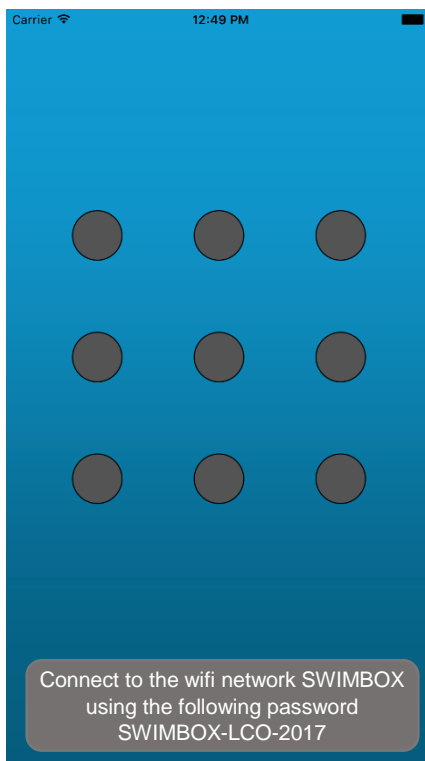

Figure 21: The login message of the iOS app
For the iOS application, upon opening the application a message appears (Figure 21) that tells the user to connect to the Wifi network **SWIMBOX**. To do this:
3. Enter the Wi-Fi network password **SWIMBOX** that appears on the home screen of the application (Figure 21), then touch Join.
-  The connection is not established (in addition the message seen in Figure 21 will be displayed) and this is due to one of three reasons: